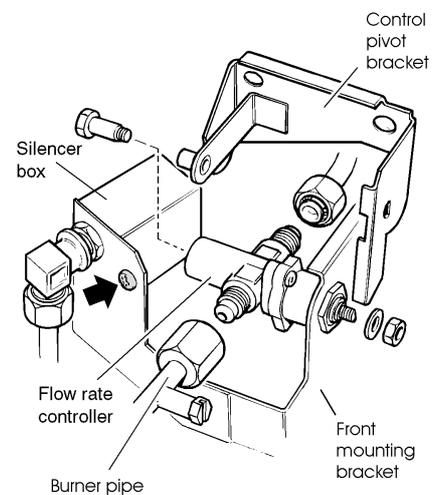

Fig 49 Flow rate controller
13.11 To remove the gas flow rate controller (see figure 49)